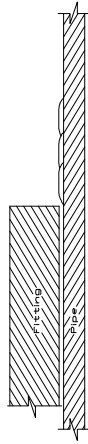
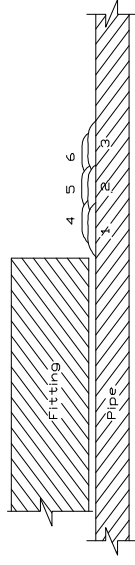

Figure 3 Detail of buttering layer onto pipe
Figure 4 Suggest method of reducing gap between pipe and fitting before welding to fillet throat
- Buffering technique shall be used on the run pipe wall as shown in the passes 1 – 3 of Figure 3. Additional reinforcement shall be applied over the buffering layer where the gap between the fitting and run pipe exceeds 1.5 mm, as shown in passes 4 & 4 of Figure 4.